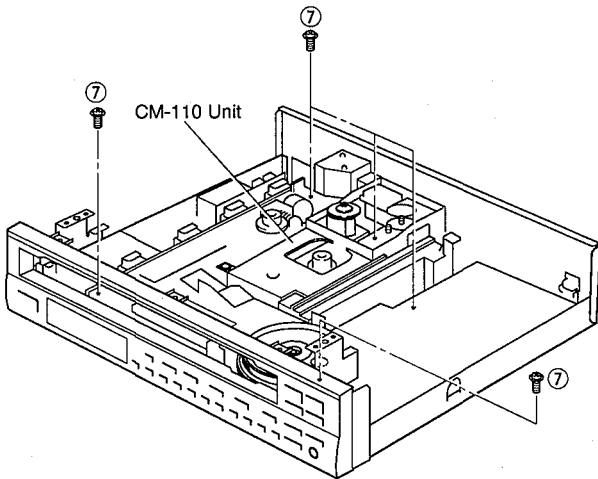

Fig. 3
- a. Remove 5 screws (7) as shown in Fig. 3.
- c. Take the CM-110 Unit out slowly as shown in Fig. 3.